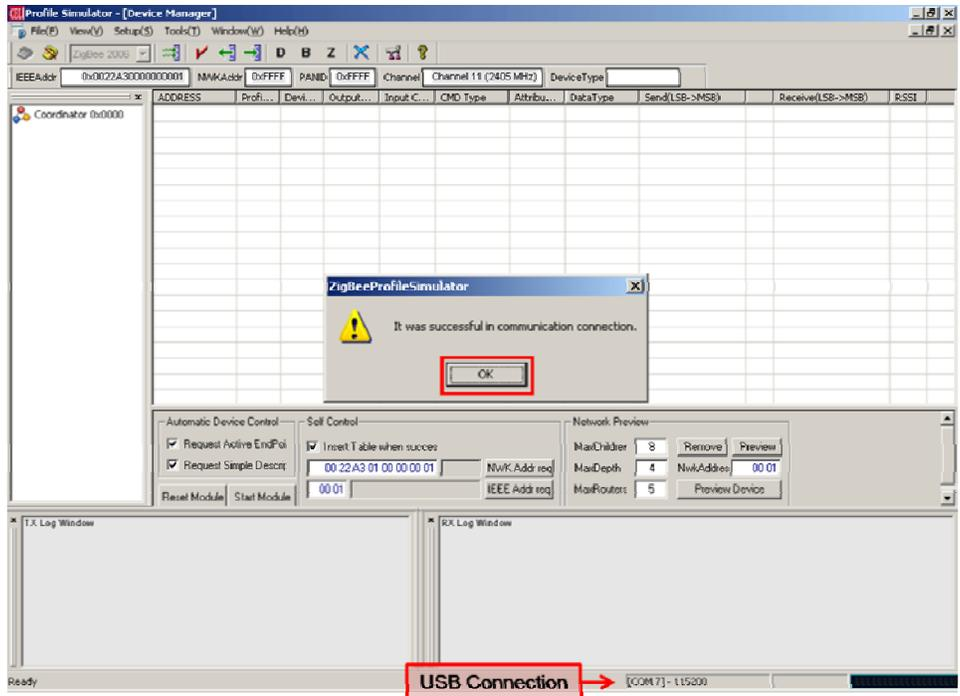

Figure 13 – Screen, *Profile-Simulator* (Successful Connection)
- 5) Input the five parameters above, and click 'Connect'. The screen in Figure 13 should be displayed. Click 'OK'.